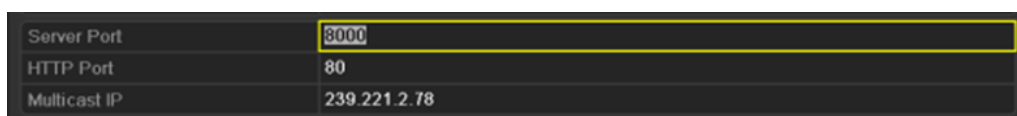

Figure 9. 20 Host/Others Settings Menu
2. Select the **More Settings** tab to enter the More Settings interface, as shown in Figure 9. 16.